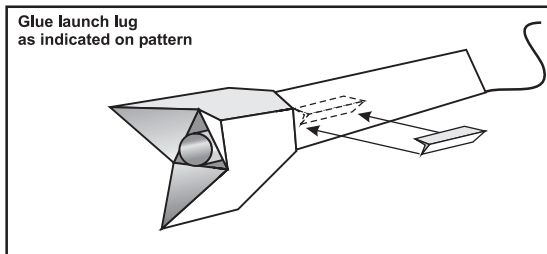

Figure 11
11. Apply a film of glue to the underside of the Launch Lug and glue in the space provided on the Body Tube, as shown in **Figure 11**.